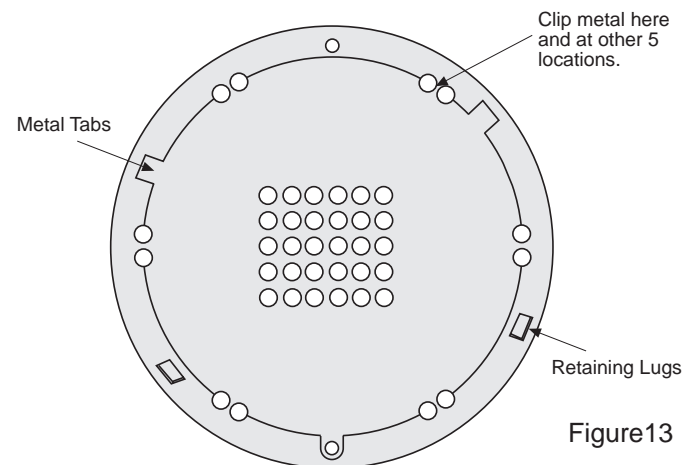

Figure13
(Refer to Figures 13 and 14 below )
- (1) Turn the unit and cut the 6 joints of the bottom plate and the motor cover using diagonal pliers (nipper). (See Figure 13 )
- (2) Separate the motor cover and the bottom plate.